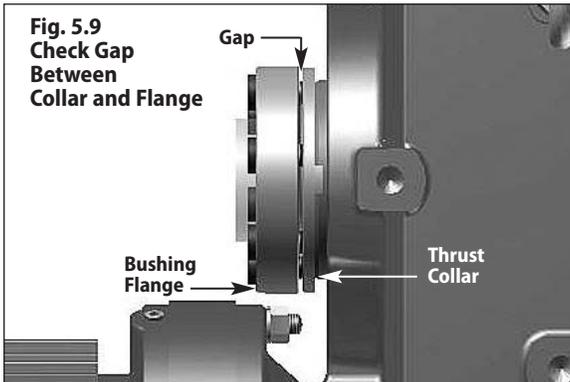

Fig. 5.9 Check Gap Between Collar and Flange
**Step 2** – Check the Taper-Grip® Bushing to assure that there is a gap between the thrust collar and the bushing flange. If no gap exists, unit removal may be difficult (see Fig 5.9).